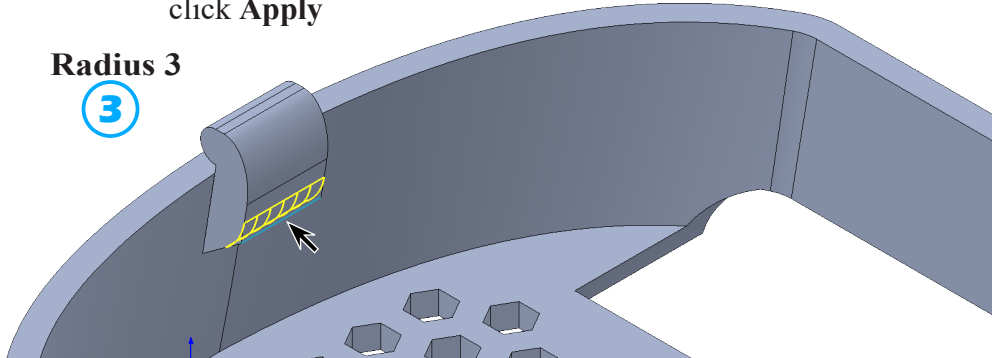

Fig. 118
③ **Radius**  **3**
click **bottom rear edge of catch (1)**, Fig. 118